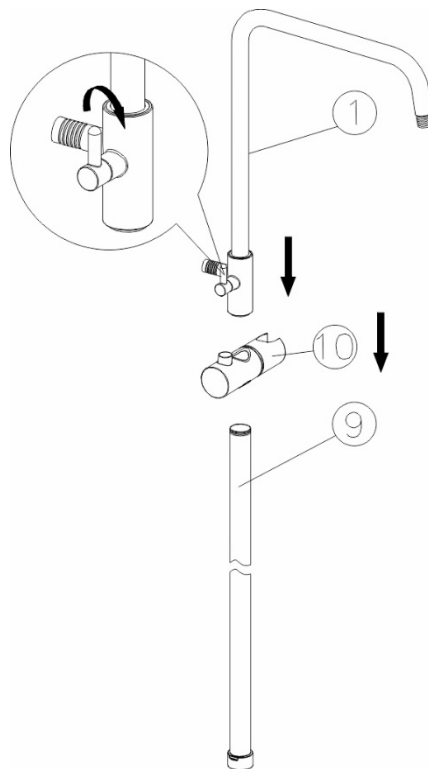

Figure 4
4. Connect the shower rack (part 9), shower head holder (part 10), overhead shower rack (part 1) and mixer body (part 15) together (Figure 4).